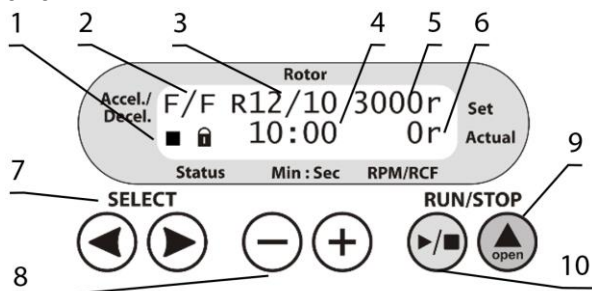

Figure 2. LMC-56 control panel
- Check the power cable for any signs of damage. Connect the power cable to a properly grounded mains socket. Set the power switch on the unit to position **I** (on). Press the **▲ Open** key (fig. 2/9) and lift the lid by hand.
- Acceleration and deceleration modes (fig. 2/2);
- Set rotor speed in RPM or RCF1 (fig. 2/6);
- Status icons of rotor, ■ stopped or ► running (fig. 2/1, first symbol);
- Status icons of lid, ■ closed or ► open (fig. 2/1, second symbol);
- Set time of centrifugation, in minutes and seconds (fig. 2/4);
- Actual rotor speed, in RPM or RCF (fig. 2/6);
- 5.4 Press the ▲ **Open** key (fig. 2/9) and lift the lid by hand. Check the rotor, buckets for any signs of wear or corrosion, and replace if necessary. Insert **EVEN** number of tubes/microtest plates in rotor one opposite another. The loading in the opposite tubes must be equal.
- 5.5 **Setting parameters.** Use the **SELECT** ◀ and ▶ keys (fig. 2/7) to choose a parameter and the – and + keys (fig. 2/8) to modify it. Selected parameter will be blinking. Program automatically saves any changes made after no keys are pressed for 2 seconds.
- 5.5.1 Acceleration modes (fig. 2/2, first letter). Three modes of acceleration are available, slow (shortened to **S**), normal (**N**) and fast (**F**).
- 5.5.2 Deceleration modes (fig. 2/2, second letter). Four modes of deceleration are available, free brake (**0**), slow (**S**), normal (**N**) and fast (**F**).
- 5.5.3 Installed rotor (fig. 2/3). Combinations of rotors, adapters and their maximum allowed speed is listed below in the **Table 1**.
- 5.5.4 Rotation parameters (fig. 2/5). Rotor speed can be set in RPM and in RCF, denoted after numeric value by **r** and **g**, accordingly. Values convert after changing units. RCF depends on selected rotor or adapters, as shown in Table 1.
- 5.5.5 Time setting (fig. 2/4). Select duration of centrifugation in minutes, step 1 minute.
5.6 Close the lid carefully and smoothly until a clicking sound is heard. Icon  appears on the display (fig. 2/1).
5.7 Press the **RUN/STOP** / key (fig. 2/10) to start centrifugation. Icon  (fig. 2/1) and actual speed (fig. 2/6) are shown in the lower line of the display. The timer (fig. 2/4) starts the countdown after set speed is achieved.